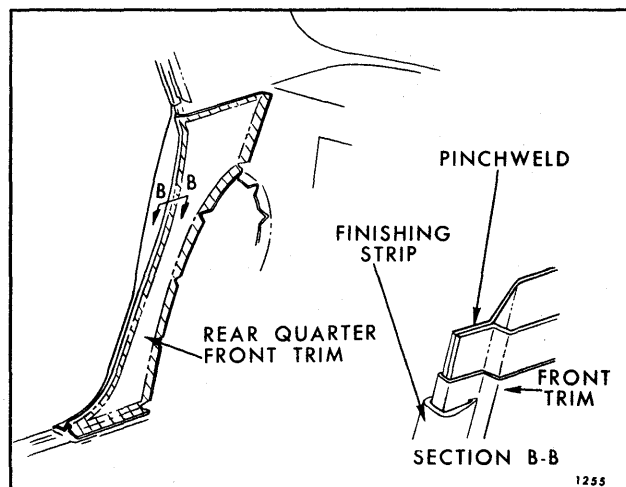

Fig. 8-15—Rear Quarter Trim Assembly - Oldsmobile 33839, '69 and Buick 44439 Styles
2. Detach rear body lock pillar finishing strip and remove rear door sill plate (see section "B-B" in Fig. 8-15).
3. With a putty knife, or other suitable flat bladed tool, detach trim assembly at cemented areas indicated in Fig. 8-15.